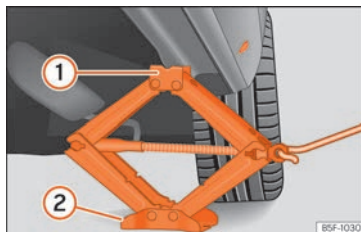

Fig. 77 Fitting the jack.
- Turn the jack* crank handle, located below the strut support point, to raise it until the tab ① » » Fig. 77 is below the housing provided.
- Align the jack* so that tab ① "grips" onto the housing provided on the strut and the mobile base ② is resting on the ground. The base plate ② should fall vertically with respect to the support point ①.